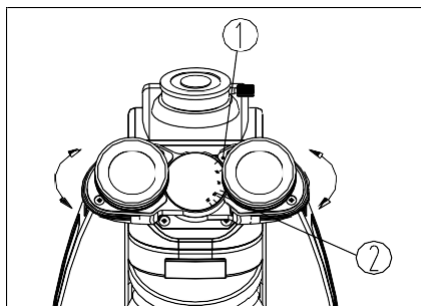

Fig.17
“。”① on the eyepiece base points to the scale② of interpupillary indication, which means the value of interpupillary distance (see Fig. 17).